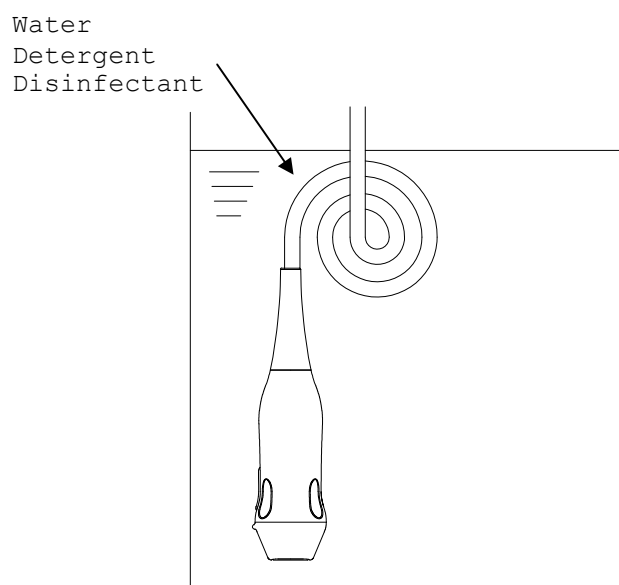

Fig. 3 Immersion of the Probe
- 2) Immerse the immersible part of the probe without connector into the diluted detergent solution (see Fig. 3). Wipe the immersible part of the probe under the surface of the detergent solution with a soft cloth to remove all visible soil. Be sure that all grooves of the probe are implemented during the cleaning process.
- 5) Rinse the probe with running tap water for 1 minute. (alternatively: immerse the immersible part of the probe in a tray filled with deionized water/tap water (see Fig. 3) for 5 min.)
- 3) Immerse the immersible part of the probe into the disinfectant (see Fig. 3). Set a clock to insure the recommended contact time which is 5 minutes.
- 4) Rinse the immersible part of the probe with deionized water for 1 minute. (alternatively: immerse the immersible part of the probe in a tray filled with deionized water (see Fig. 3) for 5 min.)